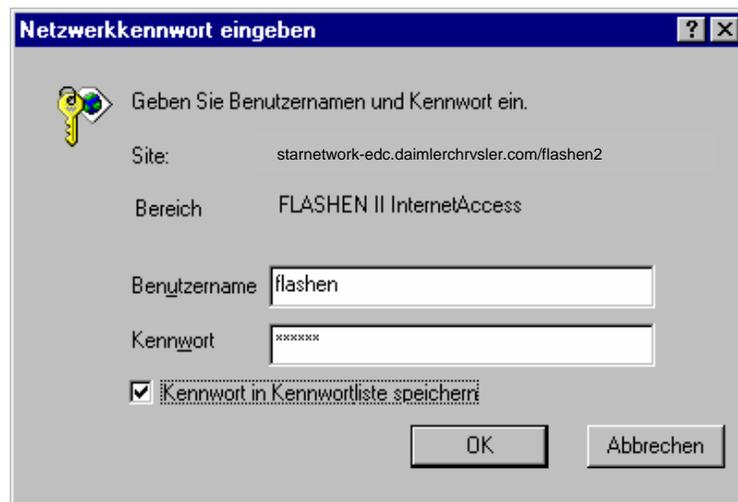

Figure 2
2. With access over the Internet a universal Username/Password combination must be utilized. (Figure 2)